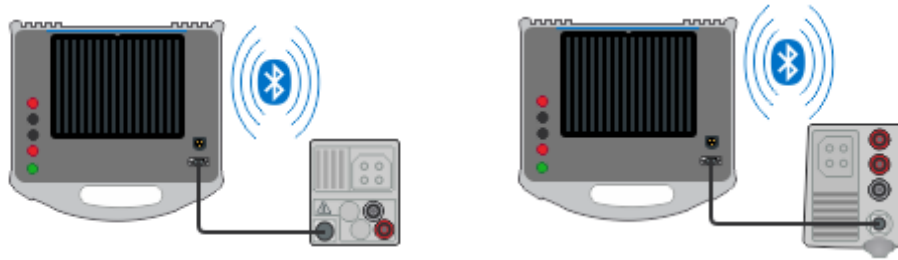

Figure 5.1: Connection of the Euro Z 440 V to the master instrument using RS 232 or Bluetooth (Example of MI 3152 and MI 3155)
- For RS 232 communication, connect serial communication interface cable RS 232_9pin_female / PS 2 to the master instrument and the Euro Z instrument. See Figure 5.1.